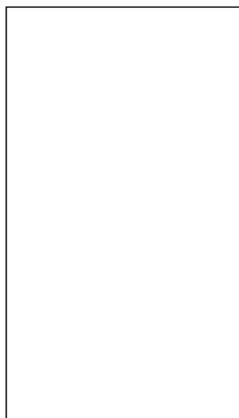

Figure 4-6: A rectangle drawn by using absolute coordinates.
3.  Choose Zoom Out from the Zoom flyout on the Standard toolbar. If you still can't see the entire rectangle, choose Zoom Out again until you can see it. Your picture should look like Figure 4-6.